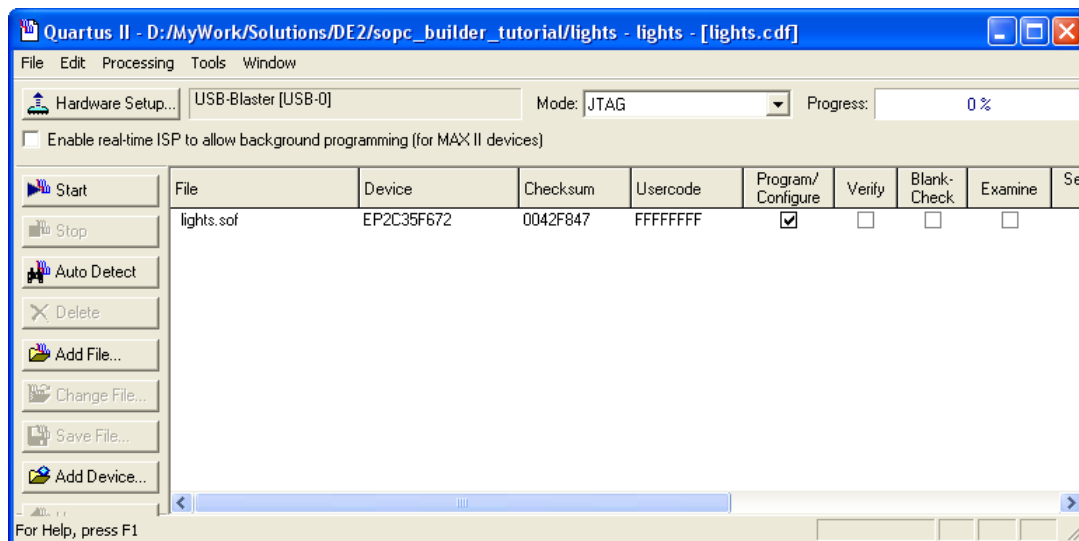

Figure 19. The Programmer window.
2. Select Tools > Programmer to reach the window in Figure 19.
6. At this point the window settings should appear as indicated in Figure 19. Press **Start** to configure the FPGA.